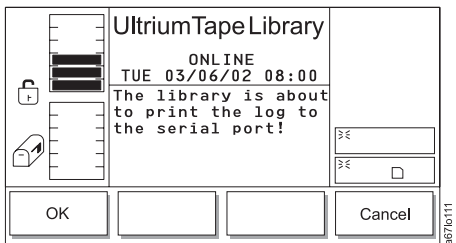

Figure 4-43. Print Dialog
- To print the command log, press the button below the **Print** softkey. The Print Dialog displays (see Figure 4-43). Press the button below the **OK** softkey to send the log to your printer. After the operation is complete, the screen refreshes. To return to the Logs Submenu, press the button below the **Cancel** softkey.